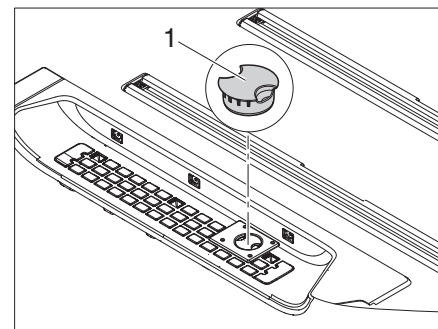

Fig. 59 Putting on the protective cap
- Place the protective cap (Fig. 59,1) on the open gas venting opening.